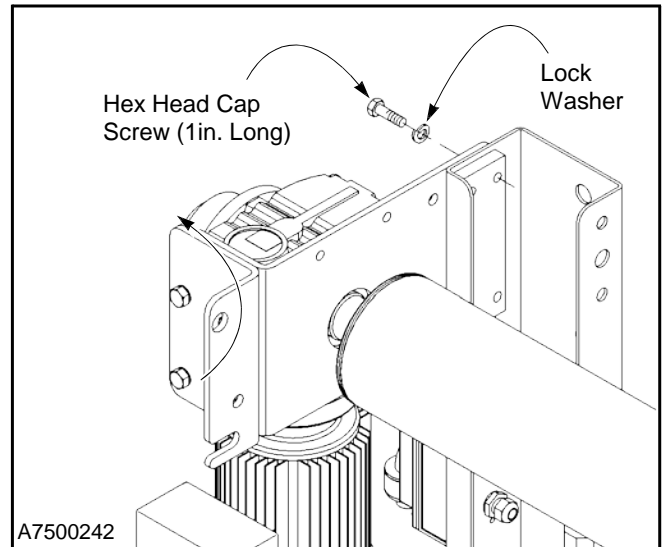

Figure 24
6. The motor support bracket on a door with a **1-hp** motor is mounted directly to the side column using four  $\frac{3}{8}$ -16 x 1-in. stainless steel hex head cap screws and lock washers. When installing the screws, be sure to use the proper sets of holes as detailed in step 5 above. The mounting hardware is located in the small parts carton. (See Figure 24.)